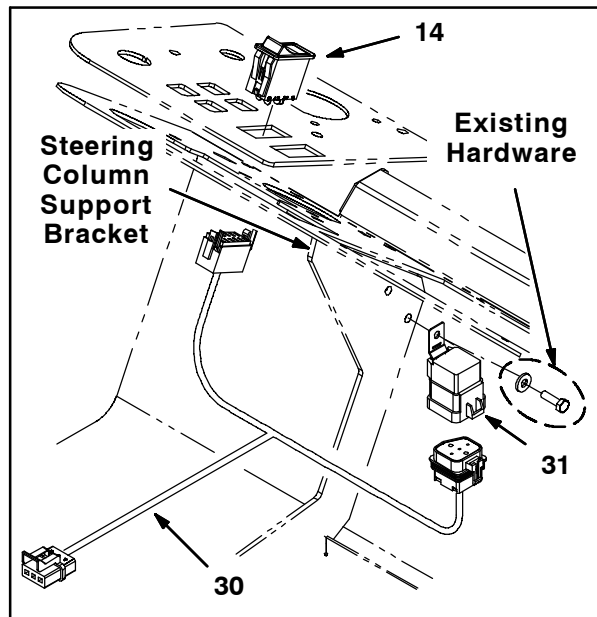

FIG. 7
21. Use existing hardware to install the relay (31) onto the steering column support bracket. Refer to Fig. 7.
22. Remove the blank from the hole in the instrument panel where spray wand rocker switch (14) will be installed and discard the blank. Refer to Fig. 7.
23. Insert the rocker switch (14) into instrument panel. Refer to Fig. 7.
24. Connect the spray nozzle harness (30) to the main wire harness. Refer to Fig. 7 and Fig. 12.
26. Connect the spray nozzle harness (30) to the rocker switch (14) and relay (31). Refer to Fig. 7 and Fig. 12.